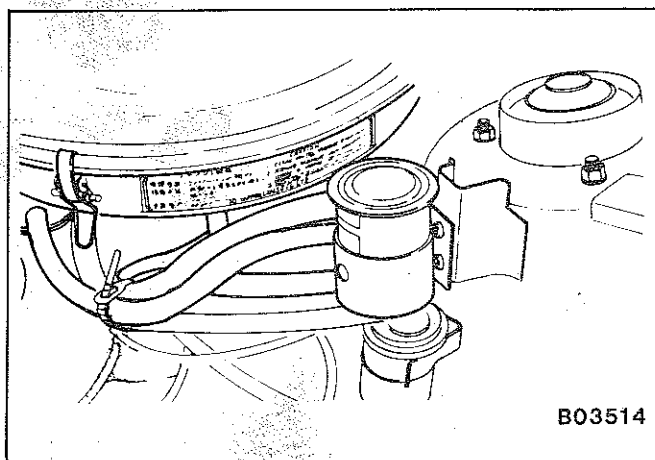

Fig. 8—Vapour separator
- Do not remove the inner venturi (17) and (18) Fig. 8.
- Do not remove the by pass screw (25), Fig. 8, this screw is sealed by paint.